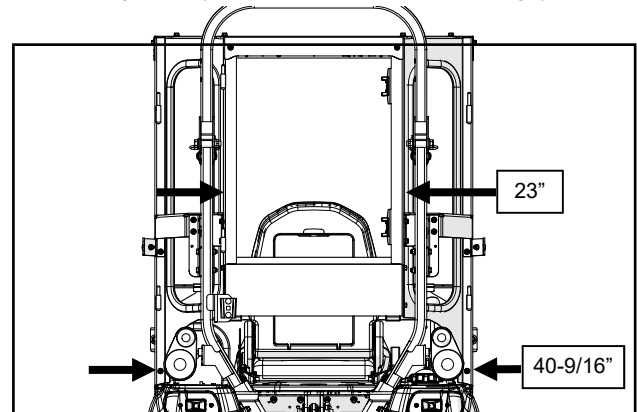

Fig. 14.2 (Measure Rear Legs - Left to Right)
- 14.2** Adjust the bottom of the rear legs side to side to get the outer surfaces approximately centered on the vehicle and about 40-9/16" apart outside to outside. See figure 14.2.
- 14.3** Measure the distance between the outside of the rear flanges of the rear legs. Adjust the rear legs to get as close to 23" as possible at *both* the top and bottom of the flanges. See figure 14.2. Tighten the hardware securing the rear legs to the contours and ROPS brackets.